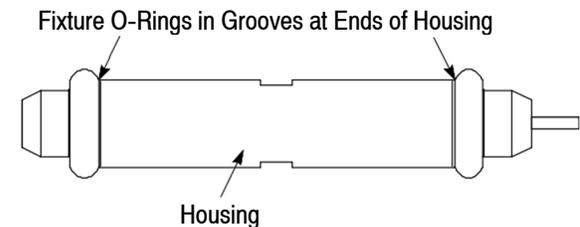

Figure 8
6. Firmly hold the housing pieces together, and slide the fixture O-ring on the protective tubing into the groove at the end of the housing; then slide the other fixture O-ring into the groove at the other end of the housing. Make sure that the O-rings sit in the grooves. Refer to Figure 8.